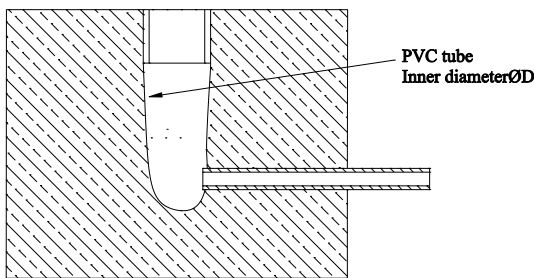

Figure 1
1. Embed the PVC pipe at the installation position of the lamp and fix it with concrete (Figure 1), and refer to Table 1 for the size of the PVC pipe ;